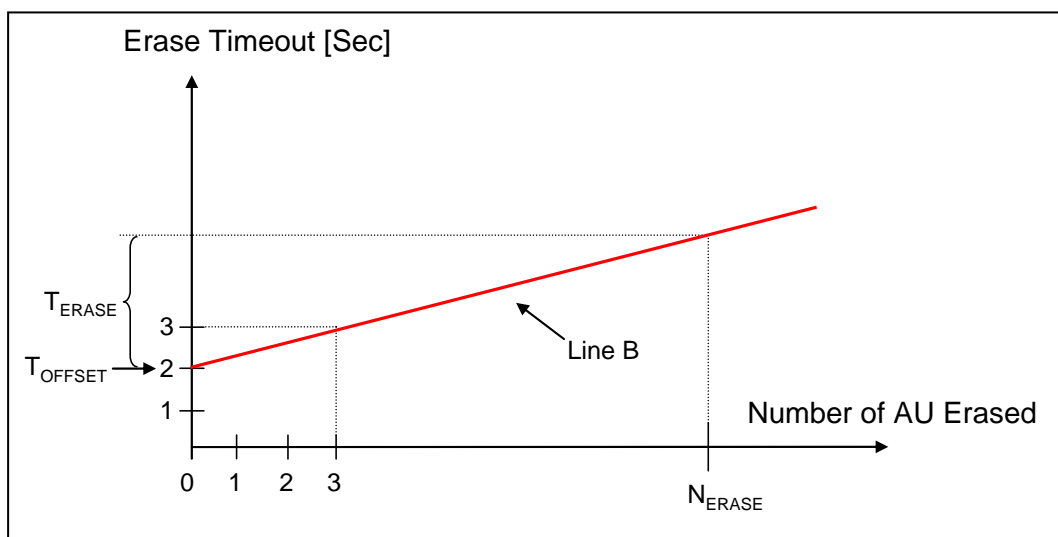

Figure 4-10 : Example Erase Characteristics (Case 2 $T_{\text{OFFSET}}=2$)
This 2-bit field indicates the T_{OFFSET} and one of four values can be selected. The erase offset adjusts the line by moving in parallel on the upper side. Refer to Figure 4-10 and Equation (6) in 4.14. This field is meaningless if ERASE_SIZE and ERASE_TIMEOUT fields are set to 0.
The line B illustrated in Figure 4-10 shows another example of erase characteristics. The red line indicates the erase timeout value that the host should use. Since the time-out is bigger than 1 second, the red line and line B are equivalent.